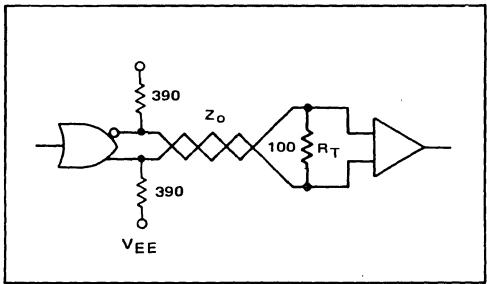

FIGURE 25 – TWISTED PAIR LINE DRIVER/RECEIVER
Twisted pair lines are one of the most popular methods of interconnecting cards or panels. The complementary outputs of any MECL III or MECL 10,000 function are connected to one end of the twisted pair line, and any MECL differential line receiver to the other as shown in the example, Figure 25. R_T is used to terminate the twisted pair line. The 1 to 1.5 V common-mode noise rejection of the line receiver ignores common-mode cross talk, permitting multiple twisted pair lines to be tied into cables. MECL signals may be sent very long distances (> 1000 feet) on twisted pair, although line attenuation will limit bandwidth, degrading edge speeds when long line runs are made.
1. The OR/NOR outputs of an MC1660 may be used to drive into twisted pair lines or into flat, fixed-impedance ribbon cable. At the far end of the twisted pair an MC1692 differential line receiver is used. The line should be terminated as shown in Figure 25. This method not only provides high speed, board-to-board clock distribution, but also provides system noise margin advantages. Since the line receiver operates independently of the V_{BB} reference voltage (differential inputs) the noise margin from board to board is also independent of temperature differentials.